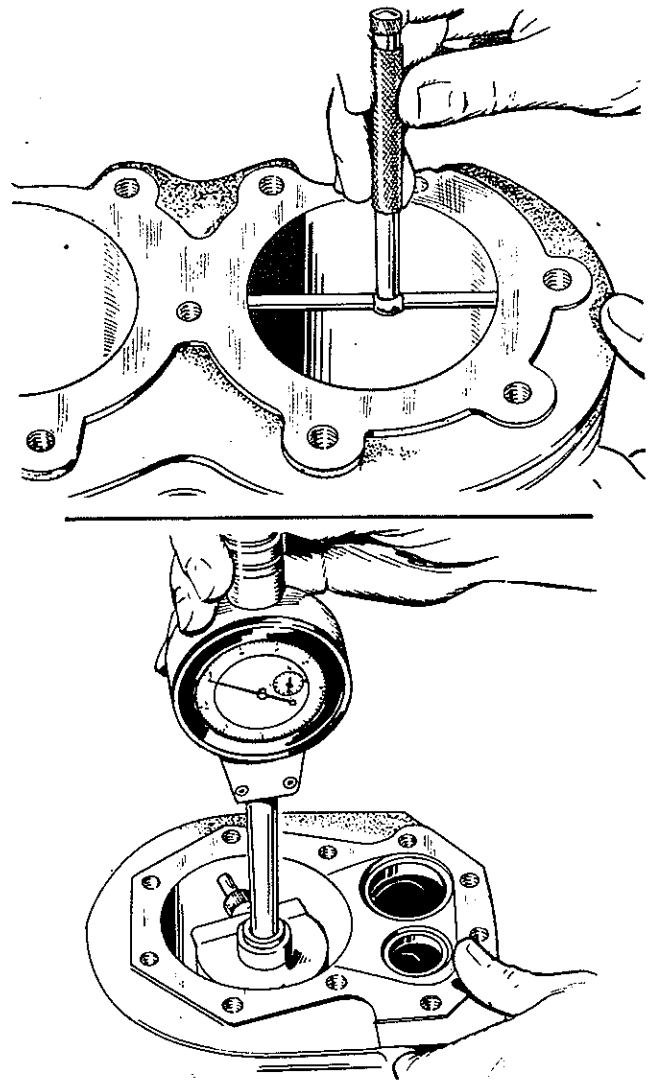

FIGURE 16-14. METHODS OF MEASURING THE DIAMETER OF A CYLINDER
3. Check cylinder bore for taper, out of round and wear with a cylinder bore gauge, telescope gauge or inside micrometer, Figure 16-14. These